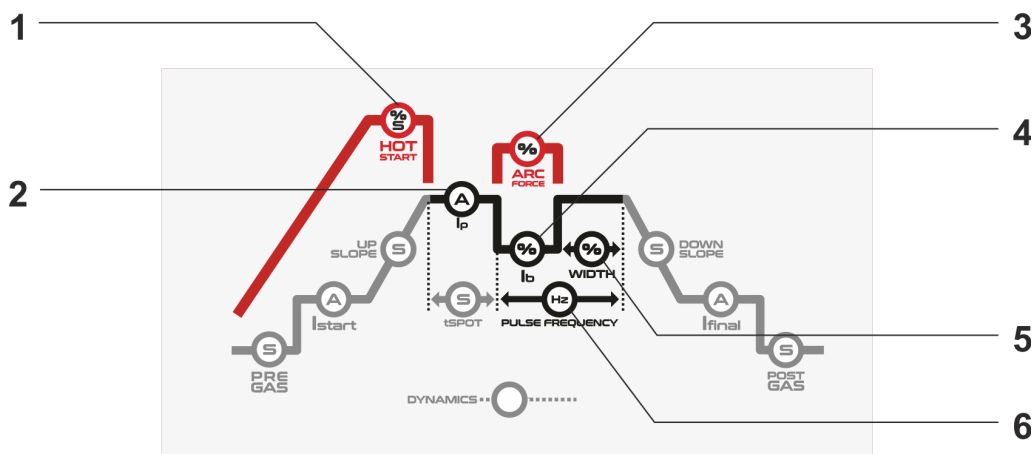

Fig. 1 - Parámetros MMA
- Set the current value (Fig.1 - 2), according to the following table:
- Hot Start (Fig.1 - 1) - To improve arc starting, adjust the hot start percentage in relation to the main current and/or time (seconds).
- Arc Force (Fig.1 - 3) - To prevent the electrode from being pulled into the workpiece during welding, adjust the arc force percentage in relation to the main current.
- I_b (Fig.1 - 4) - set the base current as a percentage of the main current.
- WIDTH (Fig.1 - 5) - adjust the width of the peak (main) current from 10% to 90%.
- PULSE FREQUENCY (Fig. 1 - 6) - set the pulse frequency in Hertz.
- To save a welding programme, set the parameters and press the button (Fig.1 - 10) until the LED P lights up. Then press the parameter selection/setting knob for 2 seconds until the digital display shows P1. Then turn the parameter selection/setting knob to the desired programme number. Finally, press the parameter selection/setting knob until the digital display shows MEM.
- To access a programme: Press the key (Fig. 1 - 10) until LED P lights up. Then turn the parameter selection/setting knob to the desired programme number. Wait 2 seconds and your programme is available.